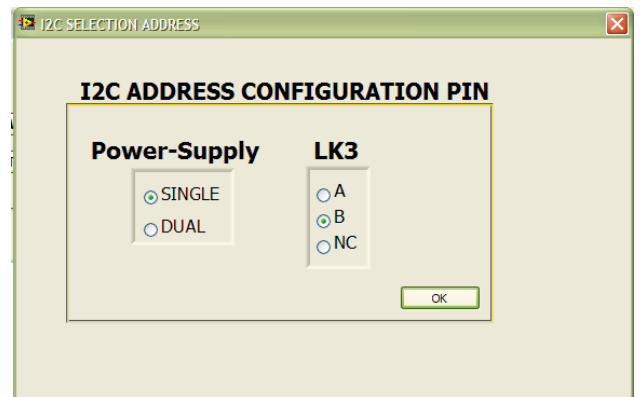

Figure 4. I2C SELECTION ADDRESS Window
4. For the EVAL-AD5272SDZ only, an additional pop-up window appears, **I2C SELECTION ADDRESS**. The I²C address is selected by LK3, as shown in Figure 4.